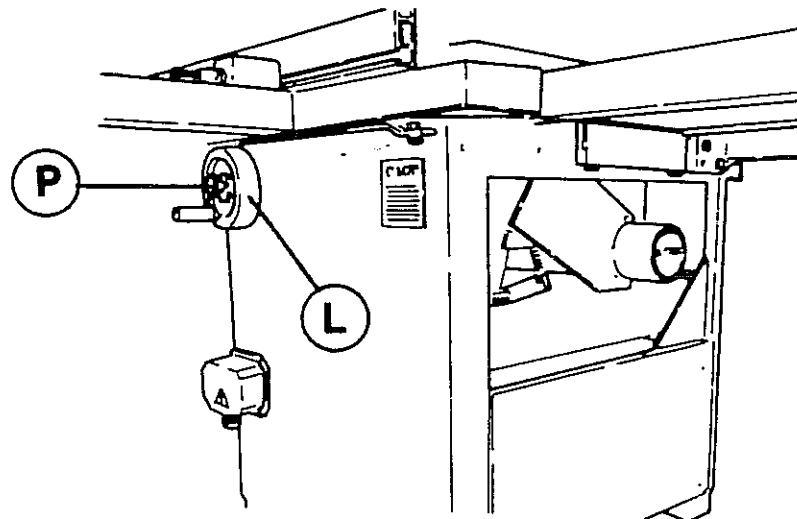

Fig.23
By means of handwheel (L) the blade may be tilted up to 45°: a complete turn corresponds to a 2° tilting. Read the tilting angle on plate (T), then lock with knob (P fig.23).